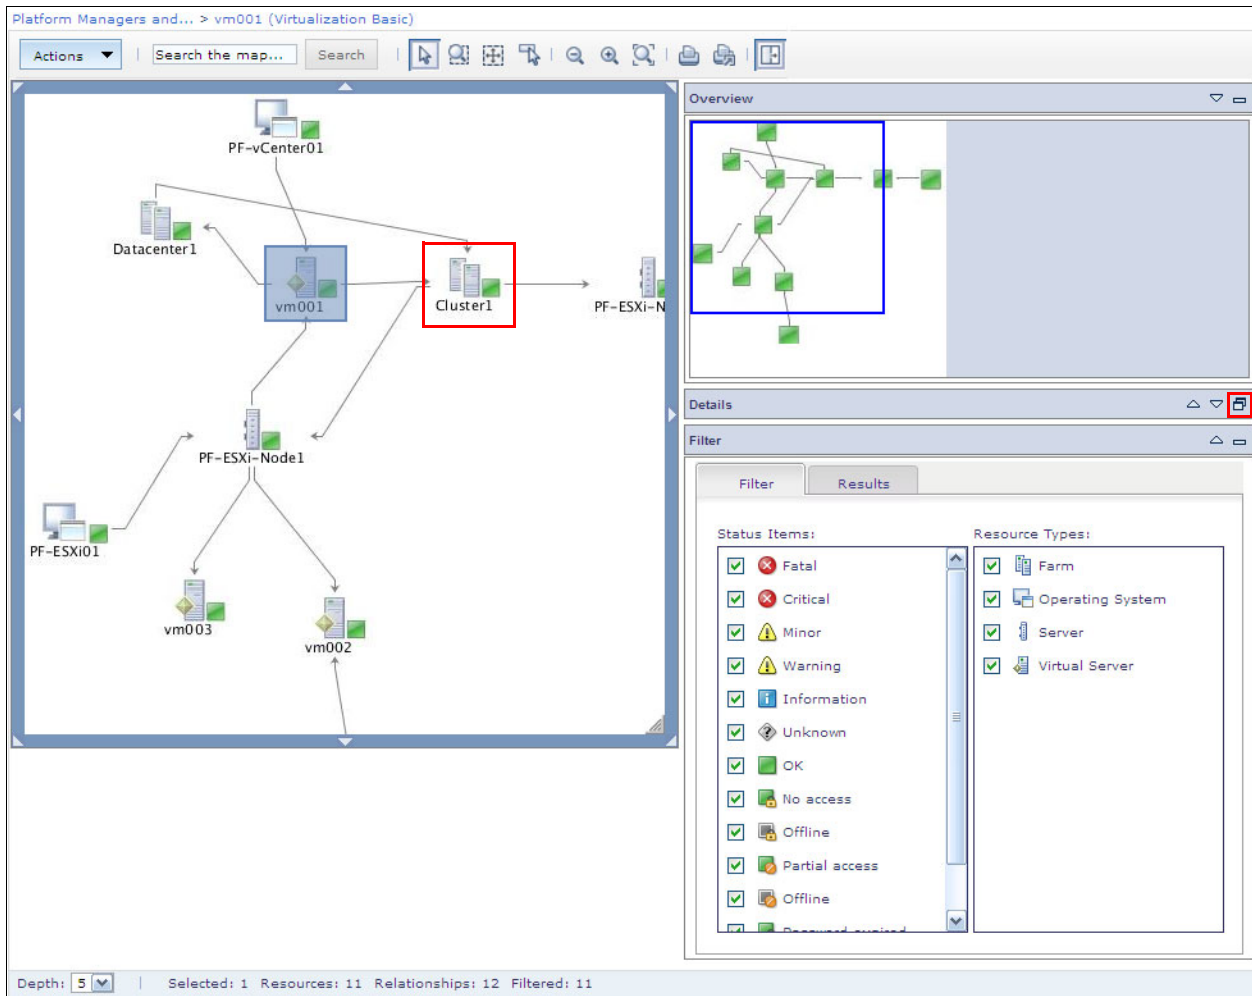

Figure 11-63 Virtualization Basic Topology view
3. Click the **Cluster1** icon and click the **Maximize** icon in the Details window, as shown in Figure 11-63.